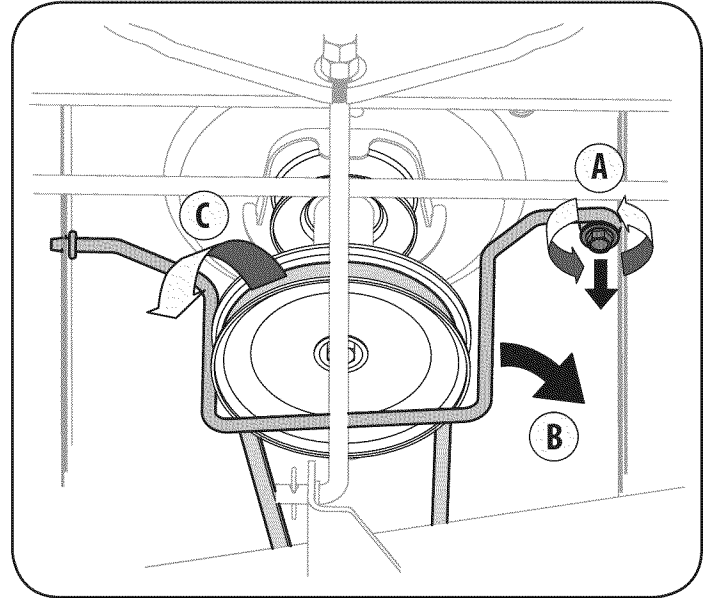

Figure 16
3. Remove the self-tapping screw (A) that secures the belt-keeper rod from around the tractor's PTO pulley, then remove the belt keeper rod (B). See Fig. 16.
4. Remove the belt (C) from around the tractor's PTO pulley. See Fig. 16.